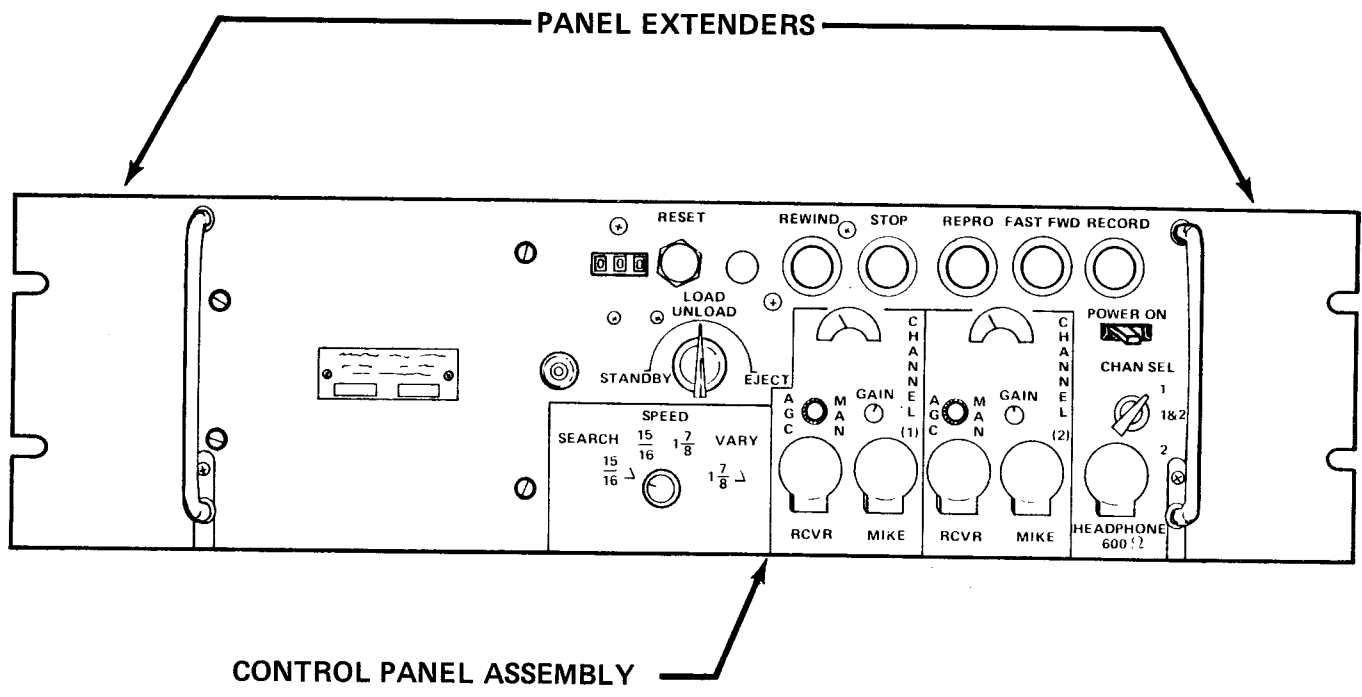

FIGURE 1-2
(2) Secured to a standard 19" equipment rack (panel extenders are provided) (Figure 1-2.) and powered by the self contained power supply.